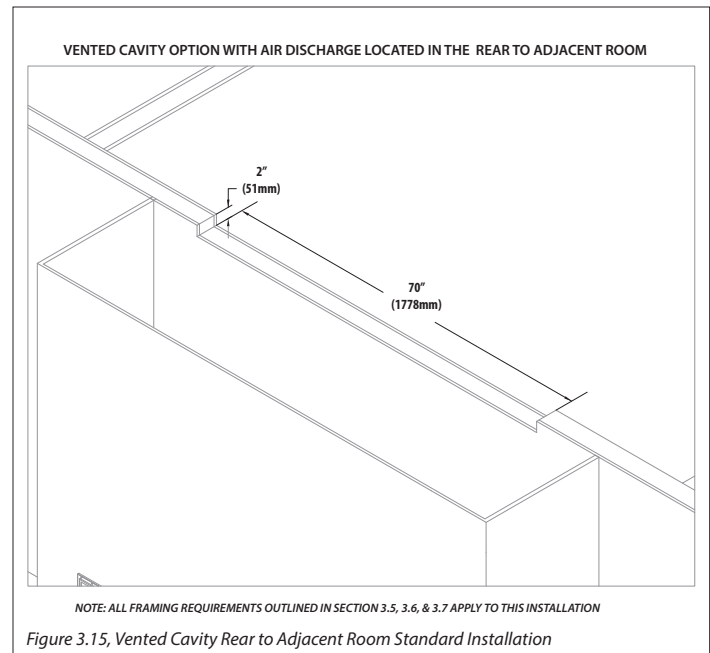
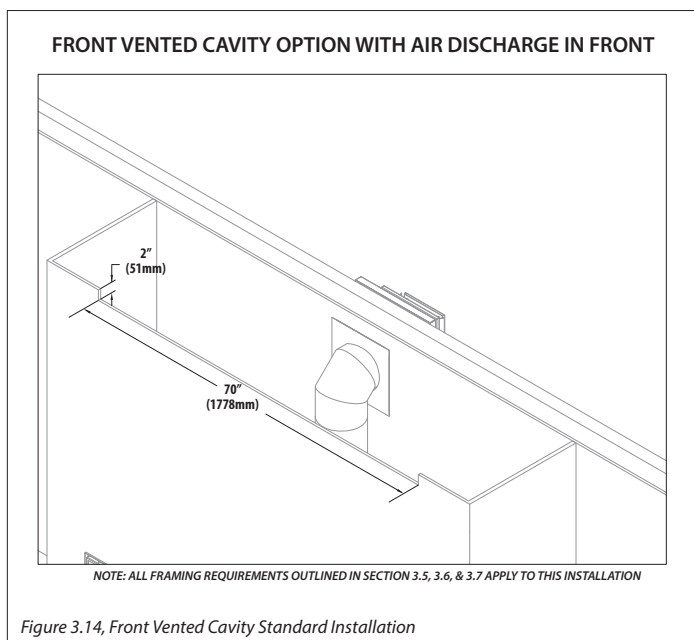

Figure 3.15, Vented Cavity Rear to Adjacent Room Standard Installation
Figure 3.14, Front Vented Cavity Standard Installation
- Figure 3.14 shows the minimum required dimensions for the vent cavity air discharge opening. This single 2" x 70" air discharge opening can be in either the front of the fireplace chamber, so hot air exits into the room the fireplace is installed, or the discharge opening can be in an adjacent room where the discharge opening would be located on the rear of the fireplace chamber. See Figure 3.15.